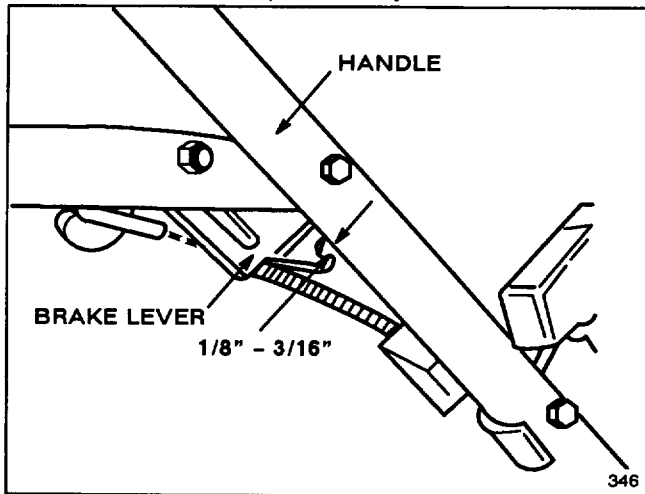

Figure 23
2. CHECK ADJUSTMENT (Fig. 23)—Move control bar toward handle until slack in wire is removed. Gap between brake lever and handle must be  $1/8"$ – $3/16"$ . See step 3 for adjustment.